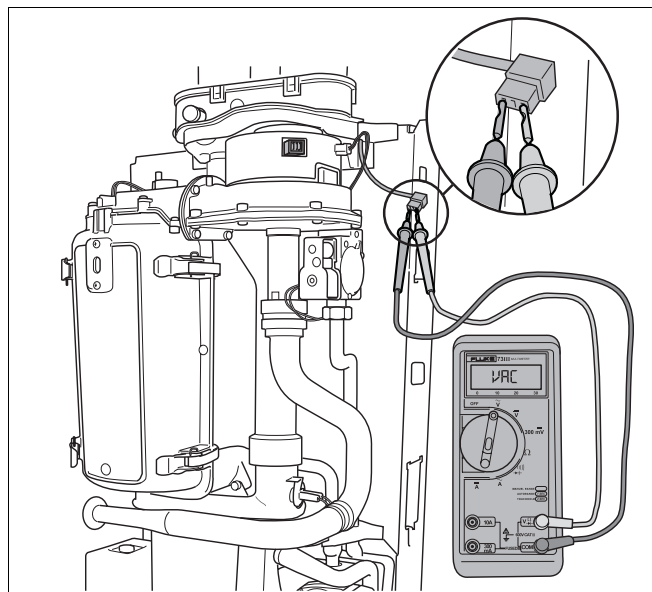

fig. 63 Remove 230 VAC plug
- Remove the 230 VAC plug (see fig. 63) from the fan.